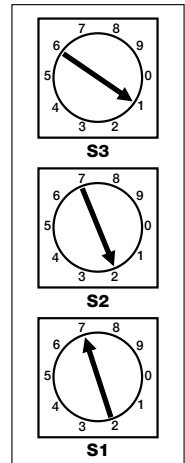

FIGURE 4b
- Finally, as desired, the DMX address should be set (for DMX units). The top switch (S3) is the “one-hundreds” unit for the address, the middle switch (S2) is the “tens” unit, and the lower switch (S1) is the “ones” unit. Addresses may be set from 1 to 501. This unit “uses” twelve addresses (so address 501 uses addresses 501 to 512 for example). To set the unit to base address 127 set the S1, S2 & S3 switches as follows (See FIGURE 4b):